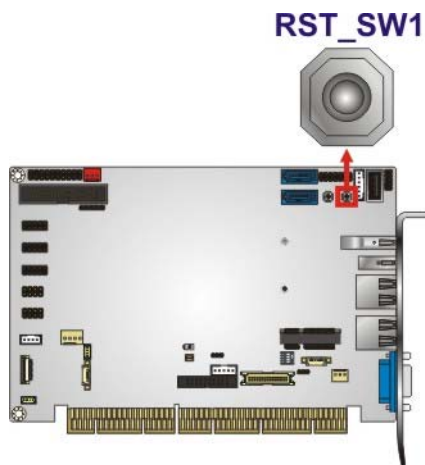

Figure 3-21: Reset Button Location
- CN Location:** See **Figure 3-21**